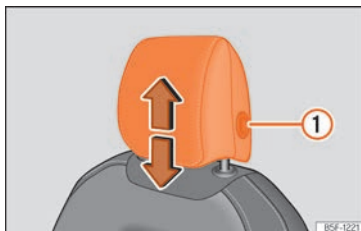
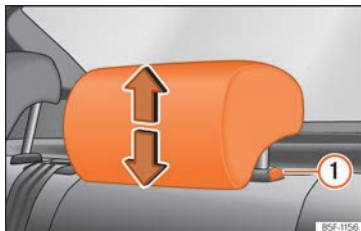

Fig. 101 Front seat: headrest adjustment.
Fig. 102 Rear headrest: headrest adjustment.
- Grab the sides of the headrests with both hands and push upwards to the desired position. To lower it, repeat the same action, pressing the button on the side ① »» Fig. 101 »» Fig. 102.
- Press the side button »» Fig. 101 ① and remove the headrest.